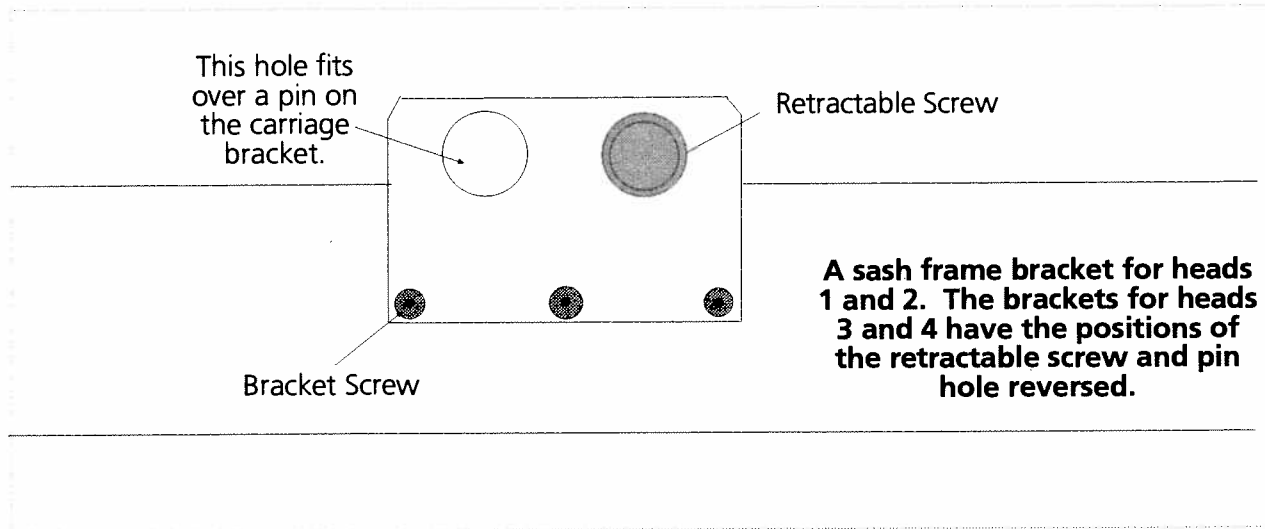

Figure 7-2
The sash frame is assembled at the factory with the mounting brackets left slightly loose. This allows easier alignment of the sash frame on the pantograph. The first time you install the sash frame, you will tighten the bracket screws after it is in place. Follow these instructions and consult Figures 7-2 and 7-3.
6. This step is **only done the first time** you install the sash frame. Locate the three bracket screws shown in Figure 7-2. Tighten all the screws on each of the four brackets--a total of 12. Use the 2 mm hex wrench that comes with the sash frame assembly.